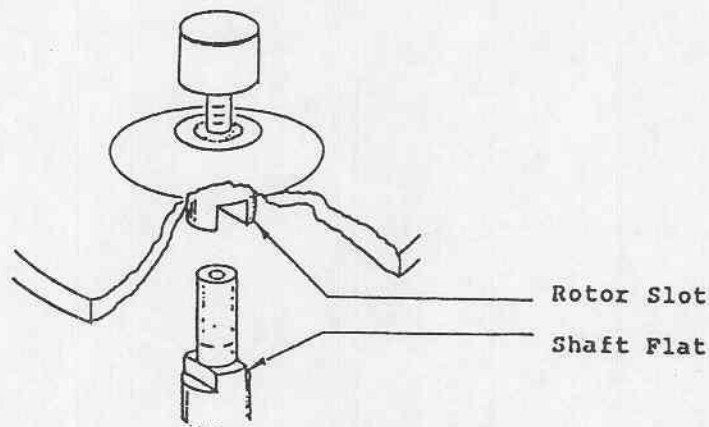

Figure 2. Rotor/Shaft Interface
4. Slide the rotor down over the drive shaft, positioning the rotor drive slot onto the flats of the drive shaft (Figure 2).